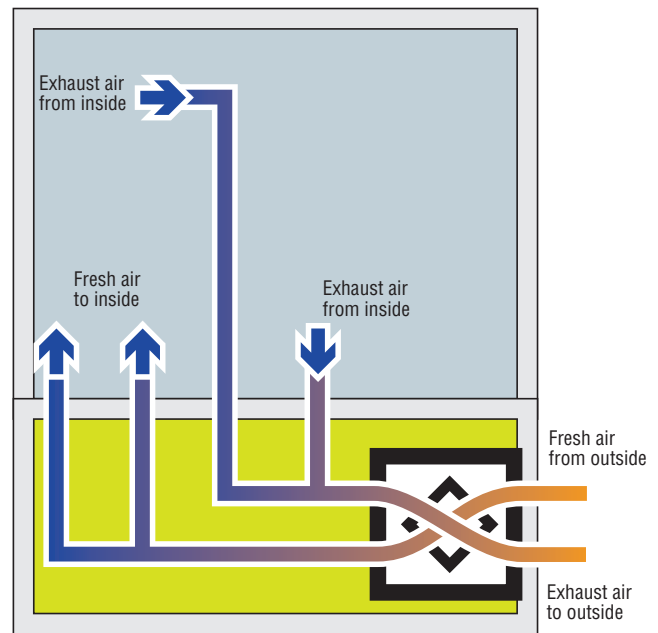

Figure 4. Outside air is pre-conditioned (cooled and dried in summer, heated in winter) with energy from the exhausted air in an ERV
- Heat Recovery Ventilators (HRV) include a heat exchanger core and pre-heat or pre-cool the OA with the energy of the air leaving the building. Energy recovery ventilators (ERV) are similar, except that they can transfer both heat and moisture from the OA into the exhaust air. (Figures 4, 5)